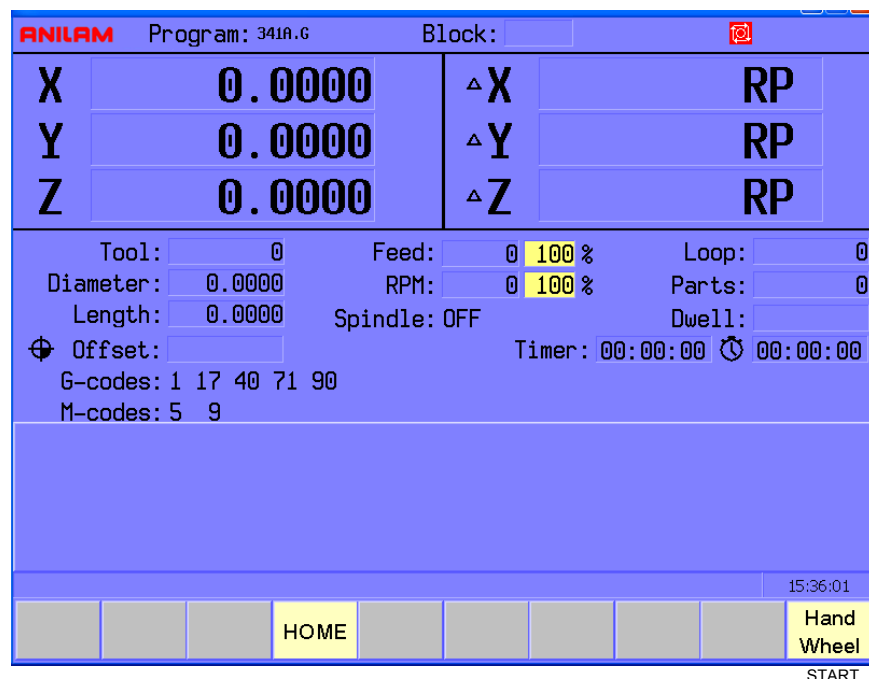

Figure 3-1, Start Screen
2. Turn the power switch ON. The startup screen activates (see **Figure 3-1**).